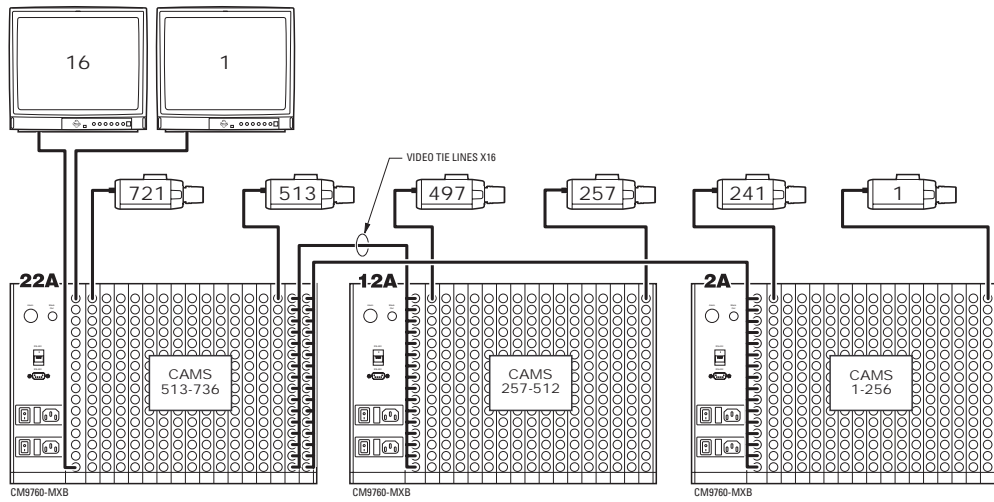
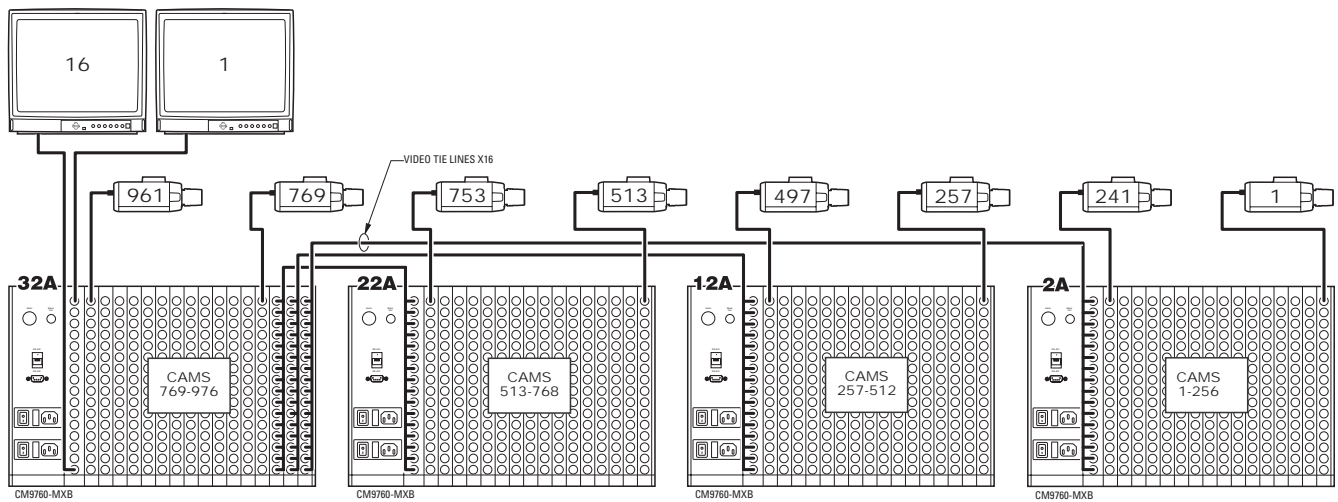

Figure 62. Sideframing: 736 x 16 Configuration
Figure 63. Sideframing: 976 x 16 Configuration
- 736 x 16 (refer to Figure 62)
- 976 x 16 (refer to Figure 63)
Figure 62 and Figure 63 illustrate sideframe-only configurations.